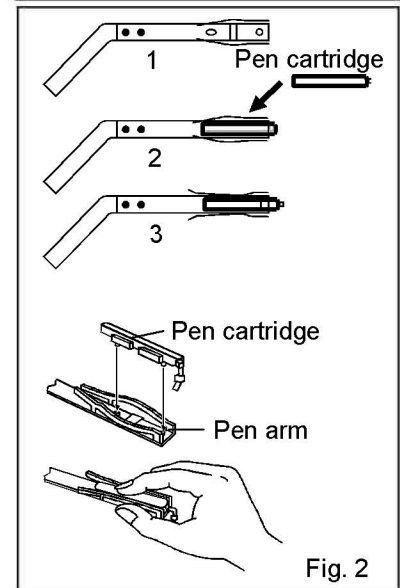

Fig. 2
NOTE: Loading a pen, turn the power OFF and then ON again to return to the normal mode. (Refer to Fig. 2 when loading a pen cartridge.)
3. Press both sides of the pen arm as indicated by the arrows to open the head clamp at A and B. (See to Fig. 2 illustration 1)
4. Position the pen cartridge so that the guide pins fit into the guide holes on the pen arm. (See to Fig. 2 illustration 2)
5. Press the two sides of the head clamp as indicated by the arrows to secure the pen cartridge. (See to Fig. 2 illustration 3) From the side view, the cartridge should fit perfectly on the arm. Confirm that the pen arm is attached to both sides of the pen cartridge.